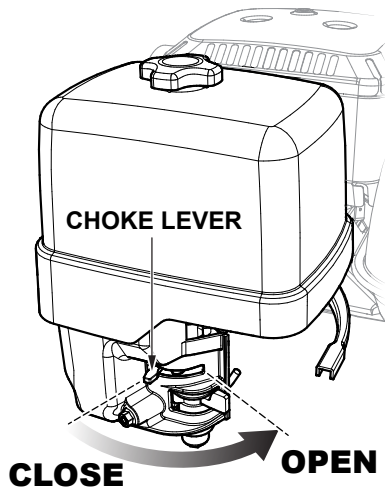

Figure 37. Choke Lever (Open)
- If starting a warm engine, place the choke lever in the **OPEN** position (Figure 37).